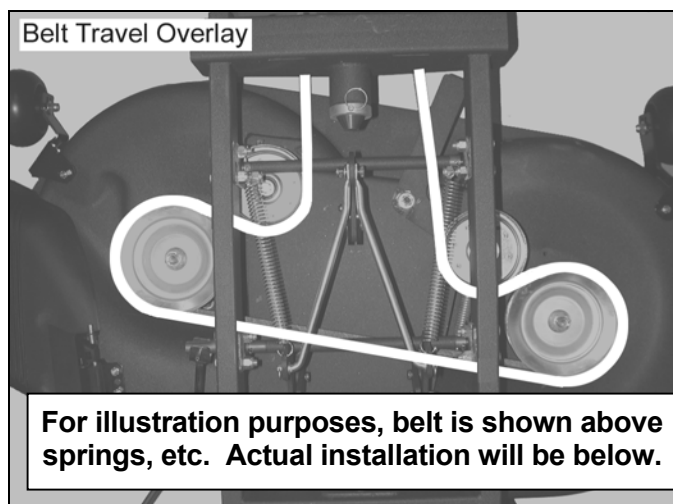

Figure 9
Your lawn deck is shipped with the belt in place on the two blade drive pulleys. However, occasionally the belt comes off during shipping. If this occurs remove the two smaller belt covers with a ½" in wrench or socket and place the belt back on the pulleys as shown in *Figure 9* on Page 8.
6. To mount the new belt, follow the above procedure in reverse. See *Figure 9* for correct belt travel on the pulleys.